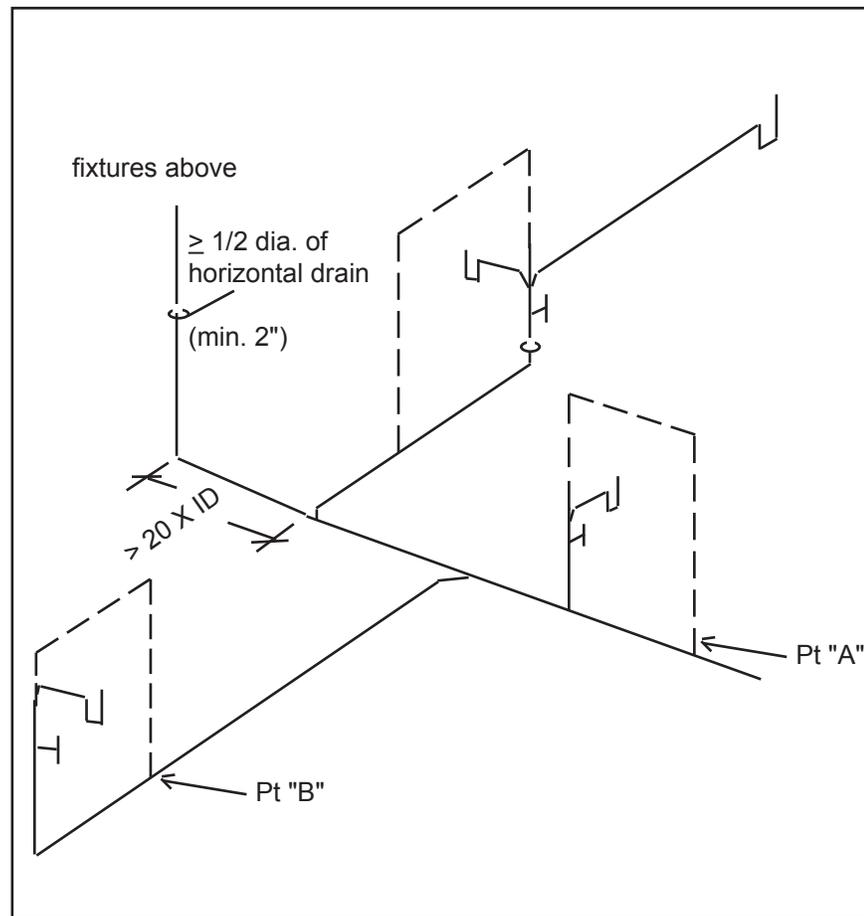

Figure 82. Laboratory sink combination drain and vent sizing
Figure 82), or the fixture may discharge to and the vent tie back into a horizontal fixture drain vented by the combination drain and vent system (point B, figure 82); (5) The pitch and developed length of the horizontal drain must not exceed the limits in Table 82.31-1 (Figure 43); (6) As in island venting, the individual or common vent must extend as high as possible under the sink enclosure and return vertically to connect to the horizontal drain; (7) Fixture drains vented by the horizontal drain shall not connect downstream of a two-inch or larger stack within twenty times the pipe diameter of the horizontal drain serving the stack.